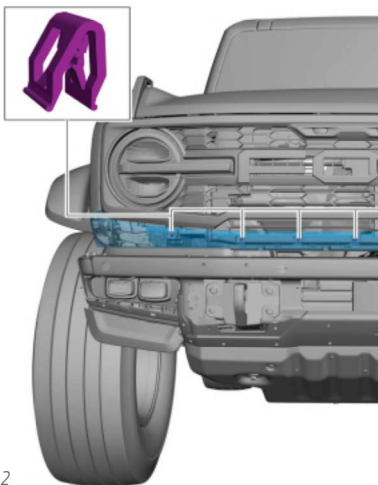

Figure 2
3. Release the clips and remove the front bumper upper cover and bracket assembly. [Figure 2]